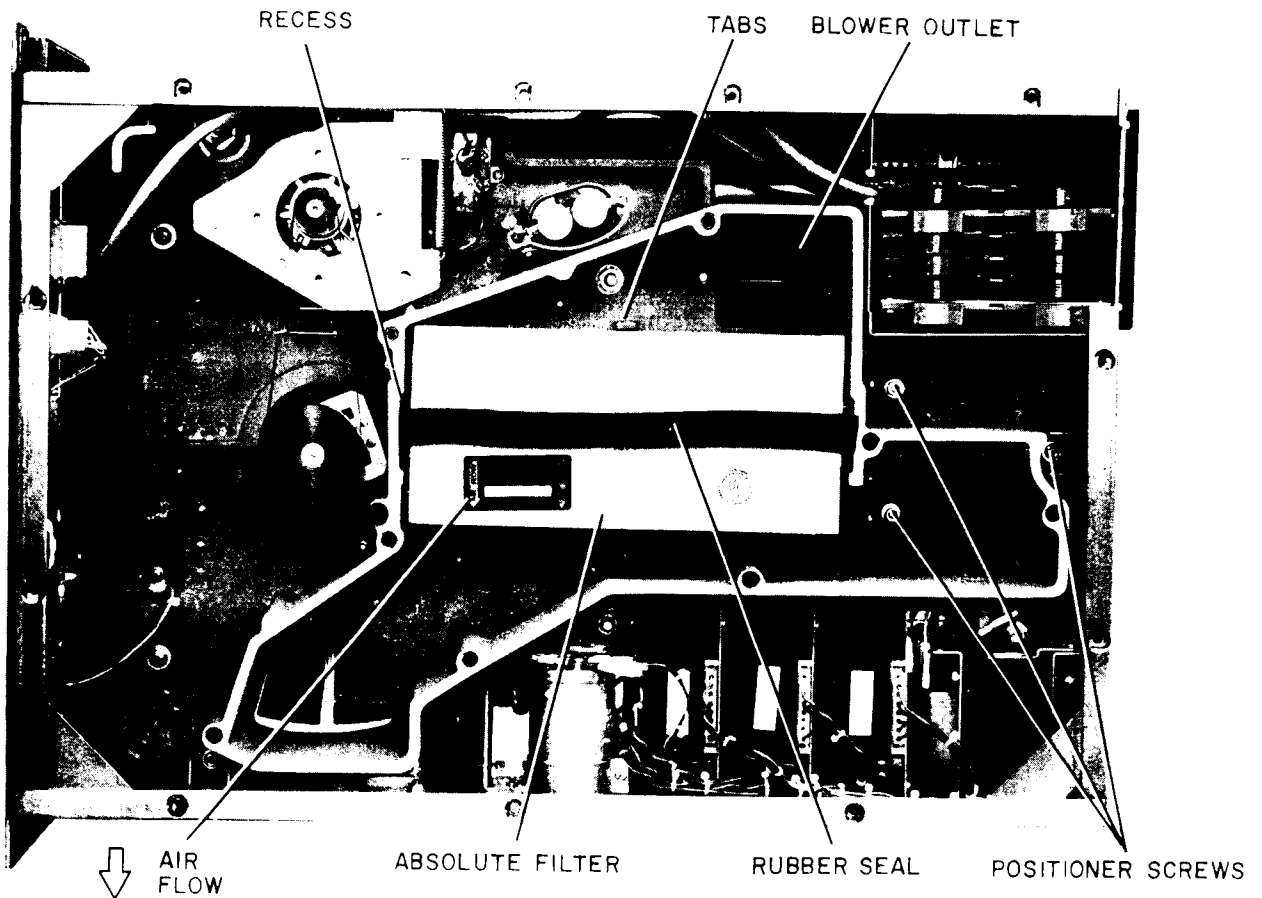

Figure 5-2 Absolute Filter Removal
6. Check the spindle drive belt tension by squeezing the belt slightly so that the distance AB (Figure 5-2) is reduced by approximately 1/8 of an inch. When the belt is released, the tension spring should restore the motor mounting plate enough to maintain tension on the belt. If it does not, replace the belt (Paragraph 5.3).
3. Remove the bottom and plenum covers (Figure 5-2).
9. Remove the three screws beneath the baseplate that attach the positioner to the baseplate (Figure 5-2).
2. Insert the three positioner holding screws (Figure 5-2) through the bottom of the baseplate and finger-tighten the screws.
8. Install the absolute filter with the arrow (air flow) pointing away from the blower outlet (Figure 5-2). Ensure that the filter is positioned between the two tabs and that the rubber seal is in the baseplate recess.